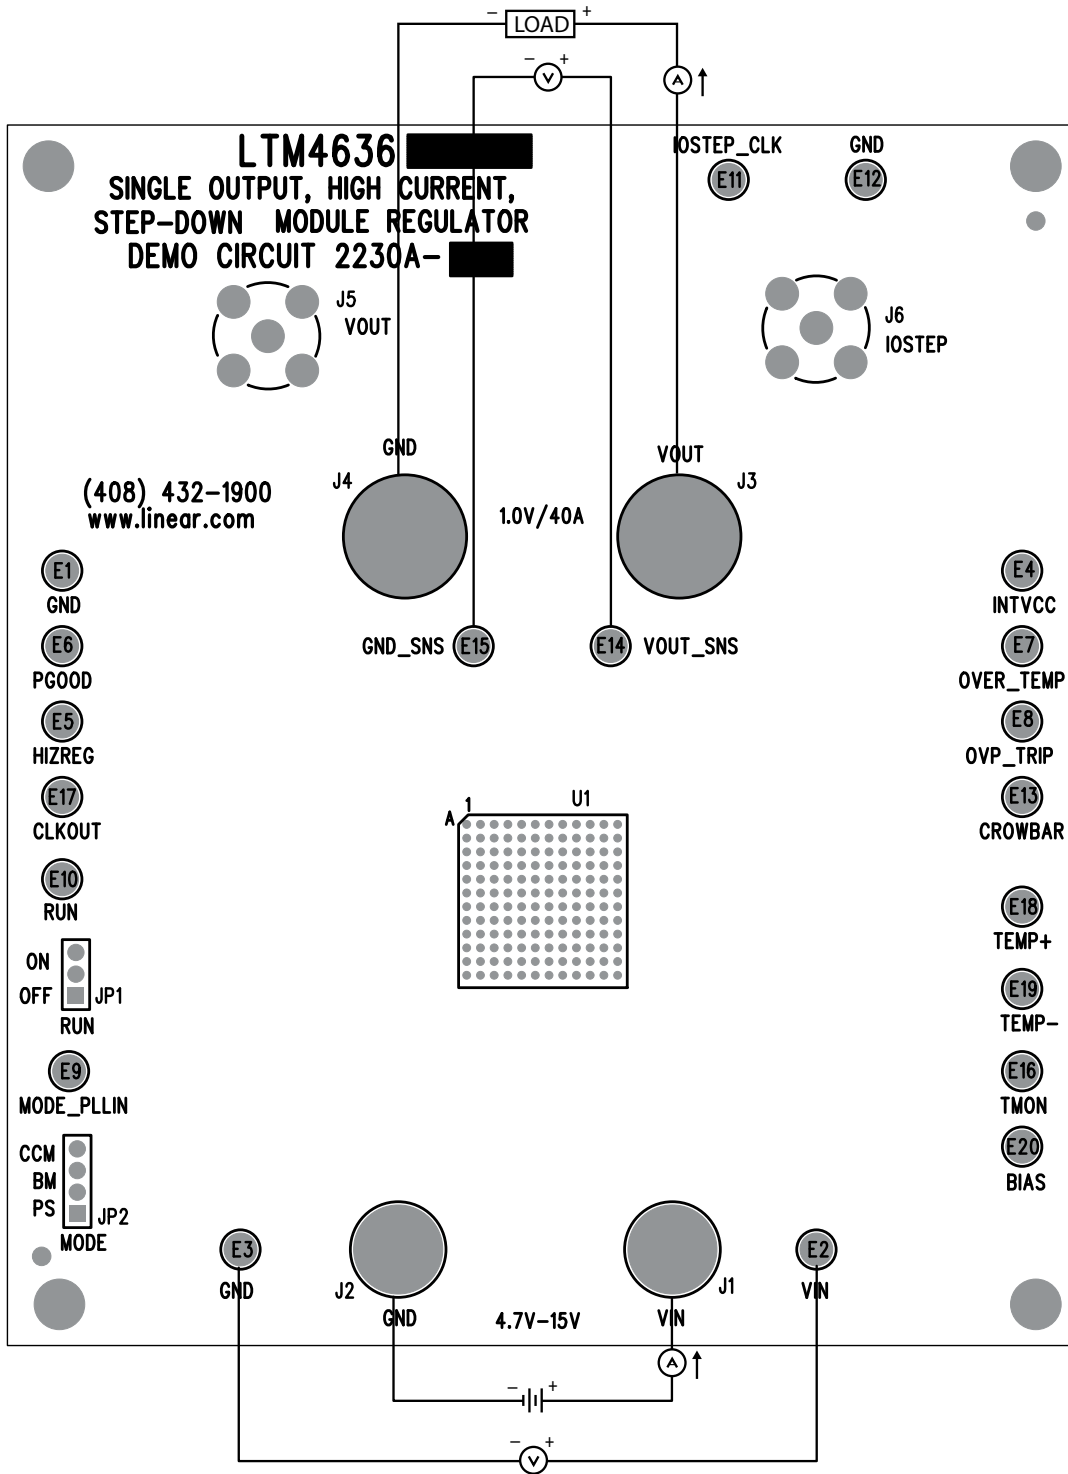

Figure 1. Proper Measurement Equipment Setup
Demonstration circuit 2230A-B is an easy way to evaluate the performance of the LTM4636-1EY. Please refer to Figure 1 for proper measurement equipment setup and follow the procedure below.
- With power off, connect the input power supply, load and meters as shown in Figure 1. Preset the load to 0A and V_{IN} supply to 12V.